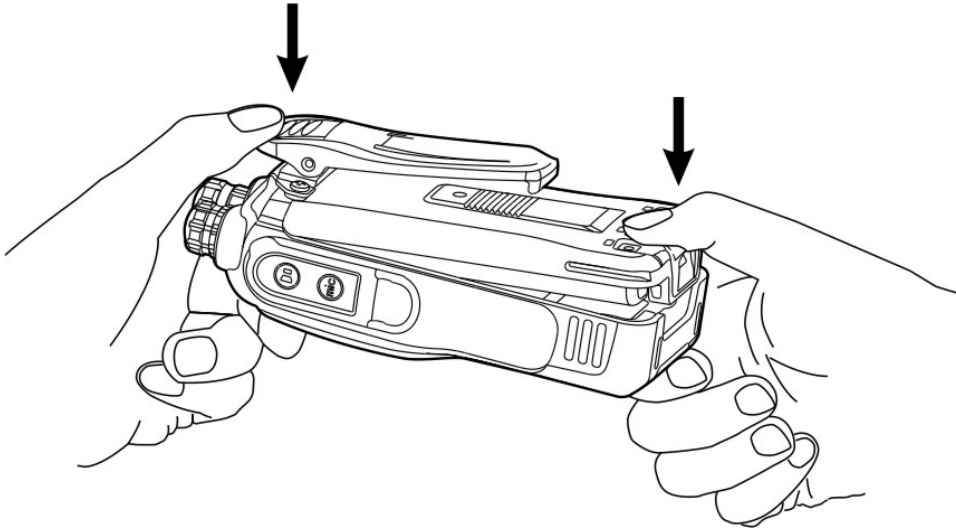

Figure 2
2. Lightly press the bottom of the battery until a “click” is heard. By then, the battery latch locks with the main unit and assembly is finished. See figure 2 below: